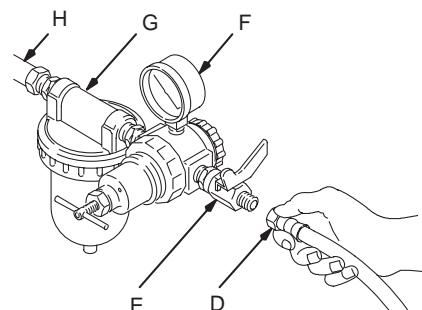

Fig. 3
2. Connect the other end of the air hose (D) to a regulated air supply line (H).
NOTE: Fig. 3 shows the filter (G) air regulator (F), and air shut-off valve (E) on the air supply line.
- You must install an air pressure regulator (F) on the gun air line to control air pressure to the gun. See Fig. 3.
- If your regulated air source does not have a filter, install an air filter (G) on the air line to ensure a dry, clean air supply to the gun. Dirt and moisture can ruin the appearance of your finished workpiece. See Fig. 3.